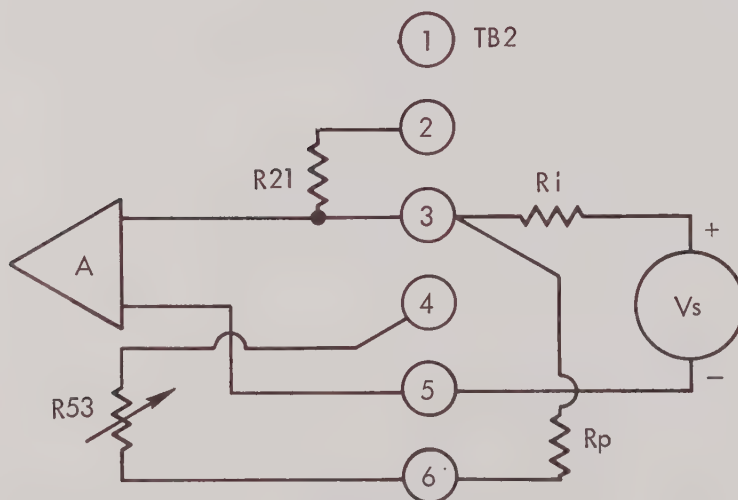

FIGURE 3-2. VARIABLE GAIN
b. Variable Gain (Figure 3-2)
- 3) Place R_i (1.78K suggested) in series with the signal source and connect as shown in figure 3-2 between TB2-3 and TB2-5 observing the proper polarity.